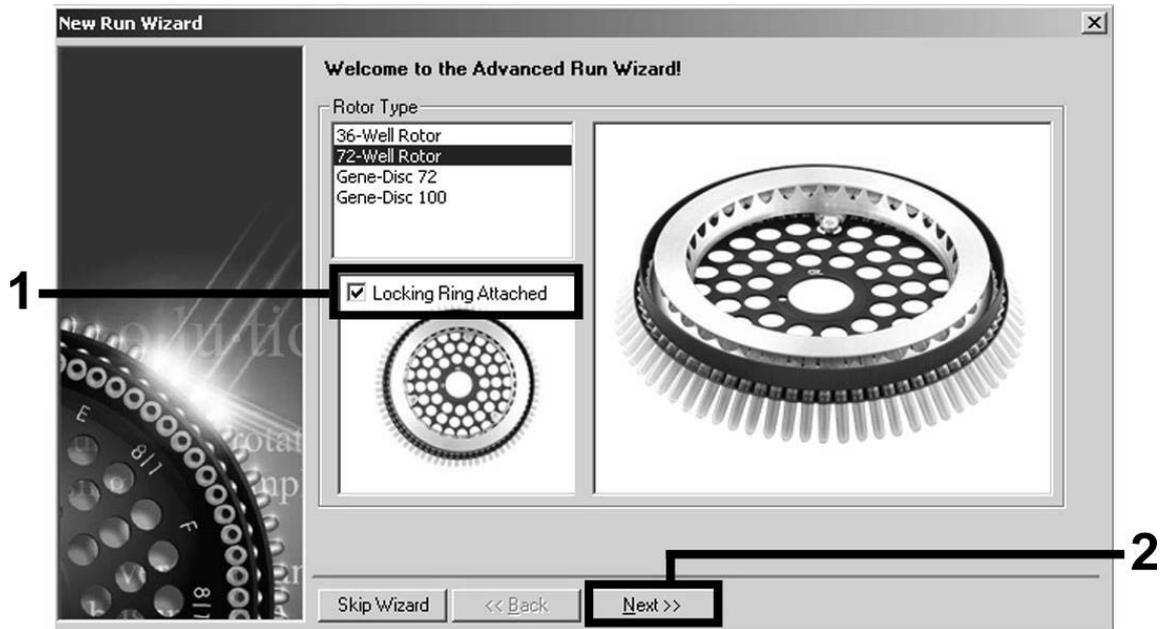

Figure 5. The “New Run Wizard” dialog box.
| Setting the general assay parameters           | Figures 5, 6, 7 |
4. First, open the “New Run Wizard” dialog box (Figure 5). Check the “Locking Ring Attached” box and click “Next”.